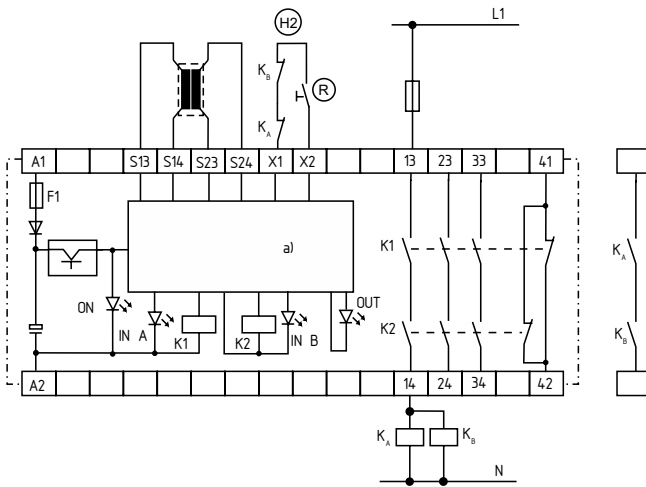

Fig. 2.1
Two-channel control system (example shows switch mat) with external reset button (R) (see fig. 2.1)